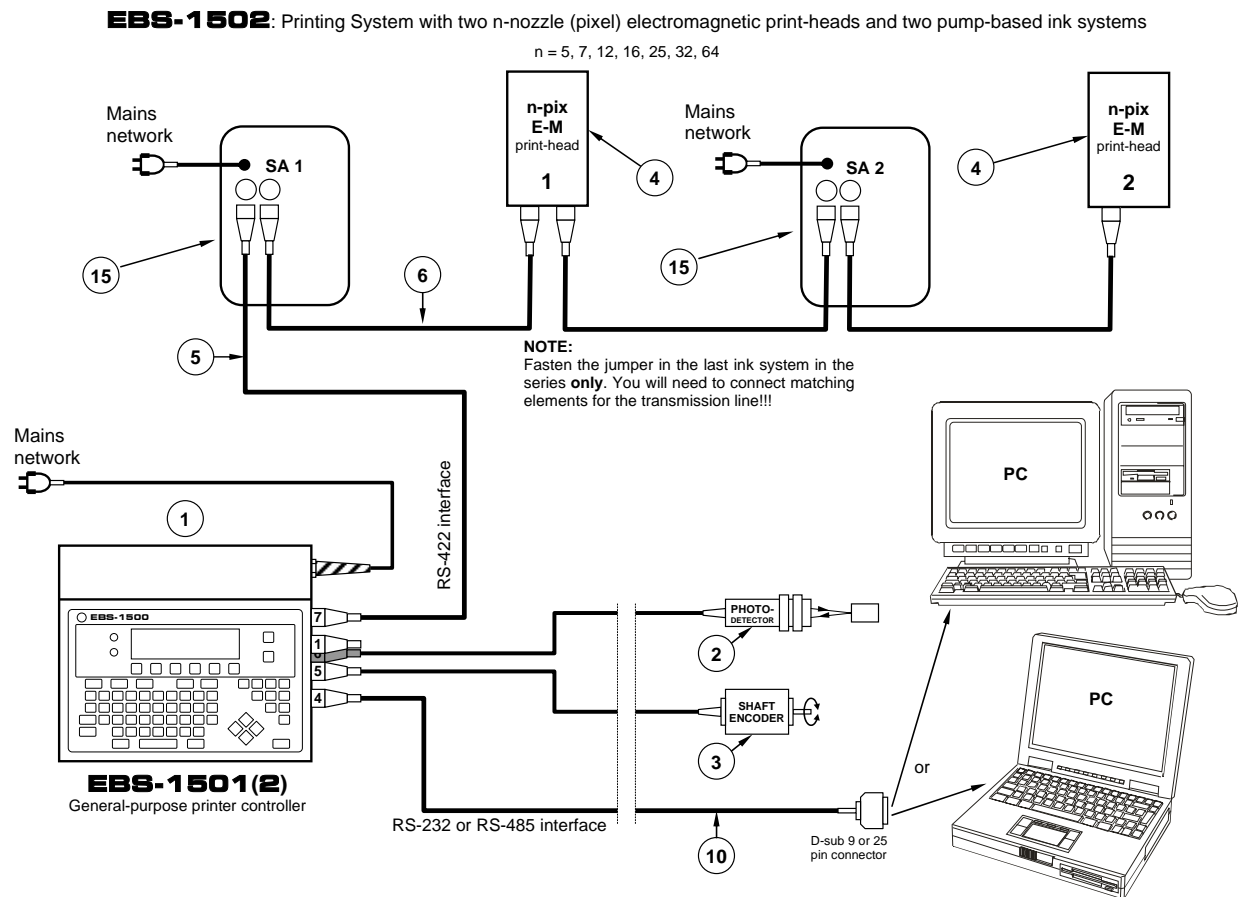

Fig. 4.2.4. Connection diagram for a printing system with two electromagnetic print-heads and two ink systems with ink pumps.
- The two-head printing system shown in **Fig. 4.2.4** is an illustration of how to connect the system elements. The system will work properly only when the requirements presented in section **4.1 Restrictions on Printing System Configuration** are satisfied and when it is designed in compliance with the guidelines given in section **4.7 Rules for designing a multi-head printing system**.